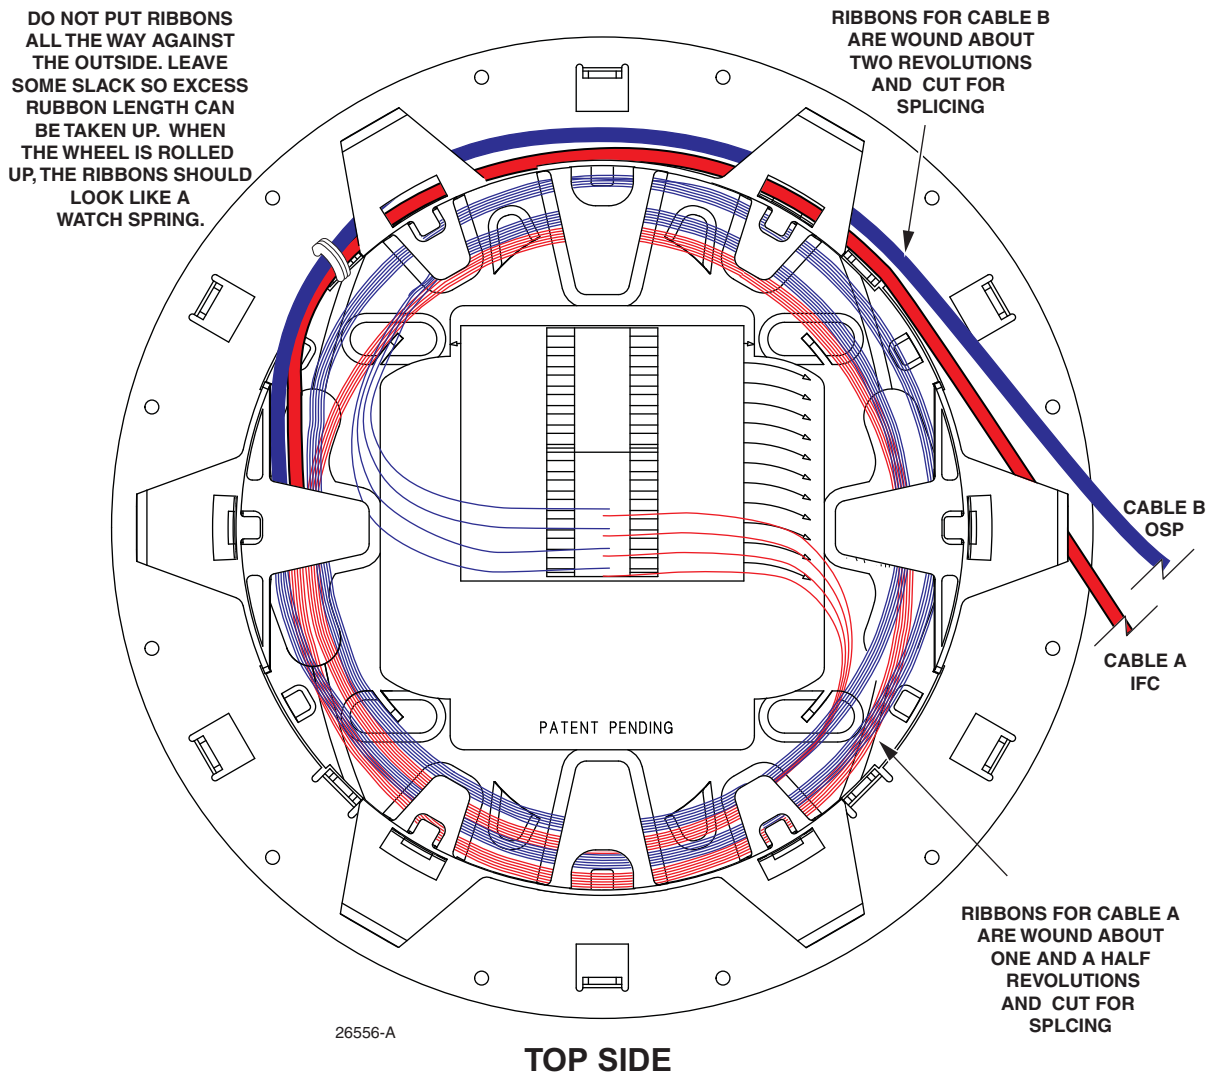

Figure 23. Counter-Clockwise Roll-up (4 Stacked Ribbons per Oval Tube)
1. Put cable “A” (typically the IFC cable) on the inside and cable “B” (typically the OSP cable) on the outside. Note the orientation of the cables. Align the end of the oval tubes in the area shown in Figure 23.